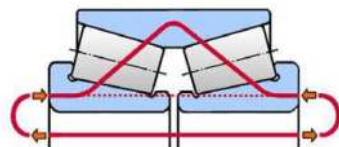

Figure 1: preload
**Preload** describes the condition of a paired tapered roller bearing (TRB) arrangement which is not allowing any axial movement (→ fig. 1). The bearings have an axial load due to the clamping force of the axle nut.